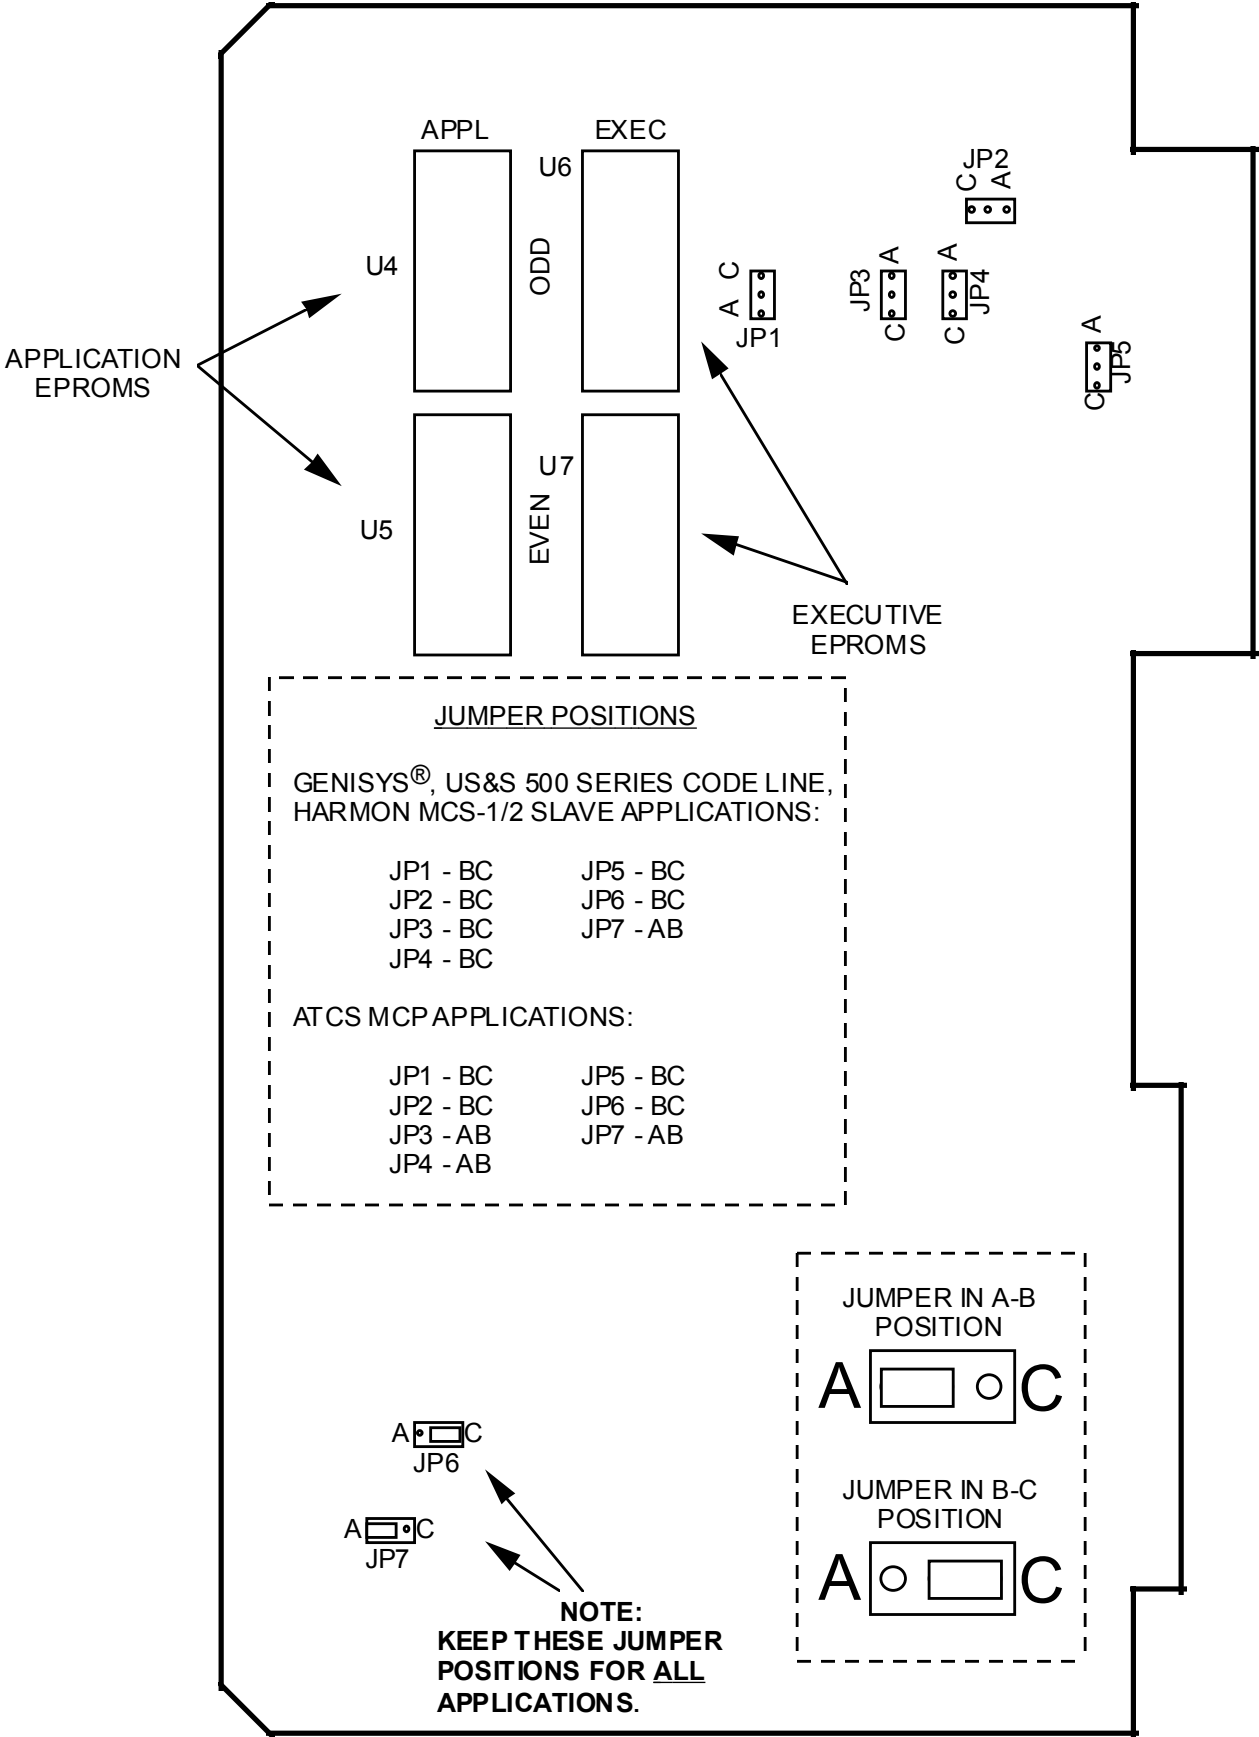

Figure 2-2. Enhanced Controller PCB: EPROM and Jumper Locations
2.3.2 Pre-Installation Preparation (Ref. Figure 2-2)